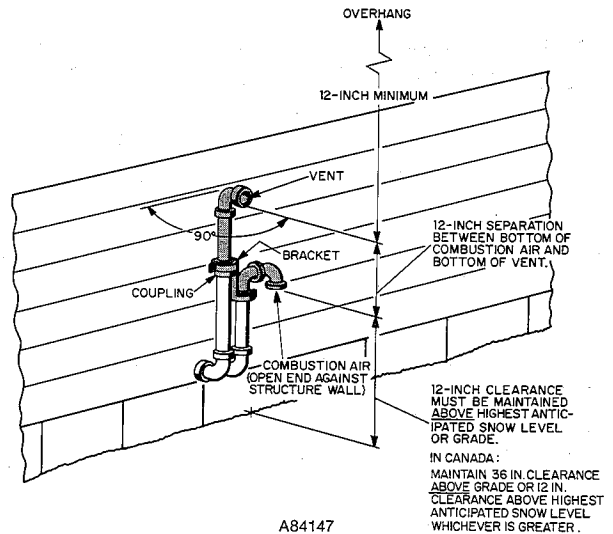

Fig. 6—Sidewall Termination Below Snow Level or Too Close to Grade
3. Sidewall terminal installation when combustion-air and vent pipes exit through sidewall below highest anticipated snow level or grade. See Figs. 6 and 7.
- d. Loosely install U-fitting and bracket as shown in Fig. 6. Position U-fitting so open end is against structure wall.
- e. Loosely install vent outlet pipe and elbow in coupling as shown in Fig. 6 or 7.
- f. Check required dimensions as shown in Fig. 6 or 7.
- h. Install bracket as shown in Fig. 6 or 7.